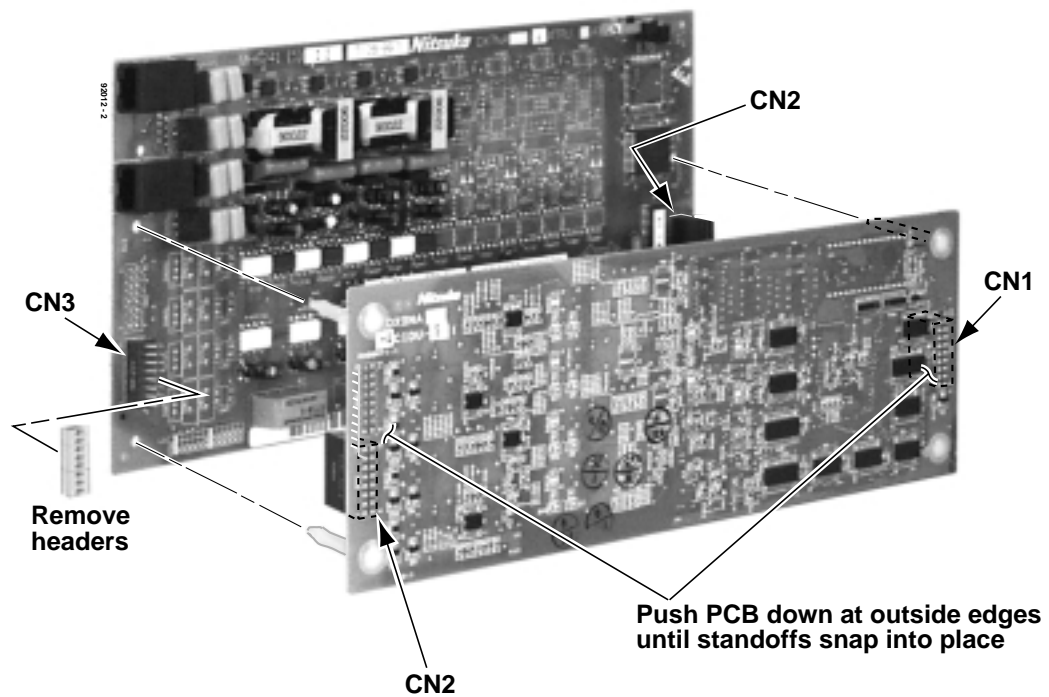

Figure 2-13 INSTALLING THE 4 CIRCUIT CALLER ID DAUGHTER BOARD
### 4 Circuit Caller ID Daughter Board (Figure 2-13)
3. Remove the headers from 4ATRU PCB connector CN3 and store in a safe place (see Figure 2-13).